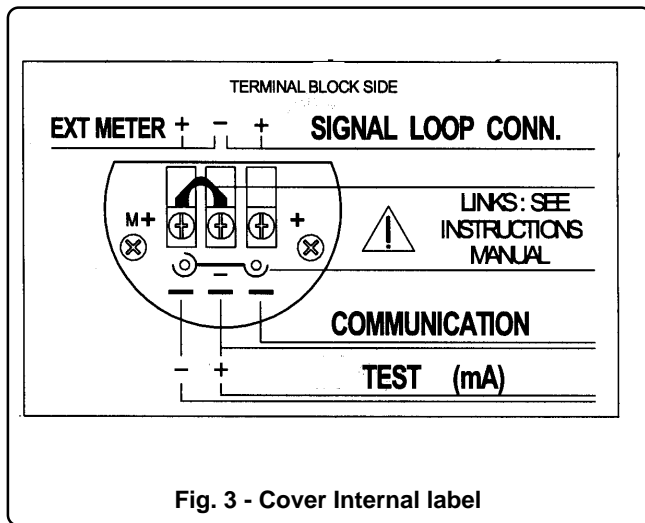

Fig. 3 - Cover Internal label
- 2) Remove the cover on the terminal block side; inside of which is affixed the label shown in Fig. 3.